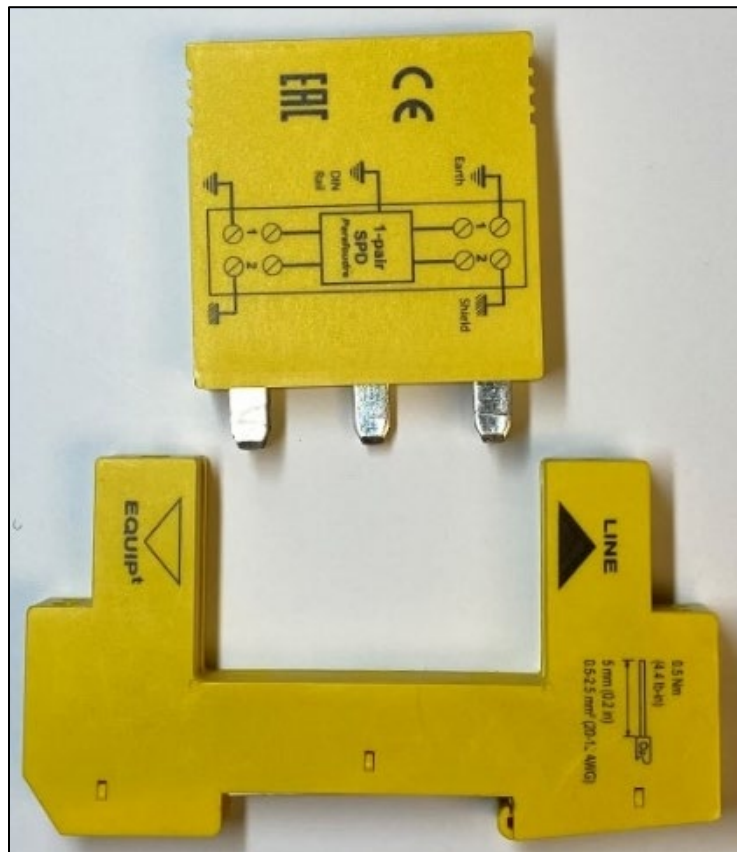

Figure 6 Swapping the Module
- ◆ If this works, replace the SPD module. Order a replacement using the chart in the Parts Listing Section. Pull the failed module up and swap in the new module to replace (Figure 6).